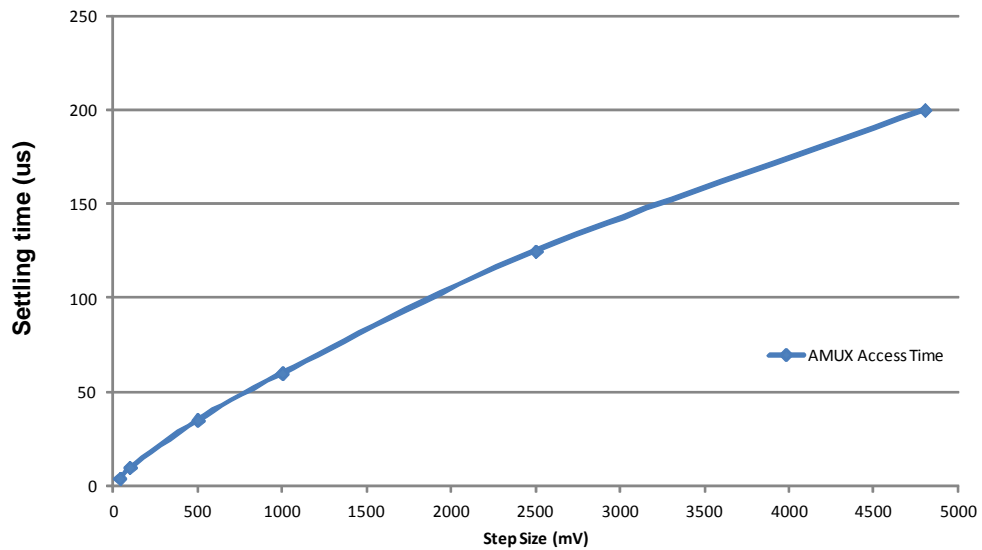

Figure 9. AMUX Access Time Waveform
24. AMUX settling time to be within the 10 mV offset specification. $AMUX_{VALID}$ is dependant of the voltage step applied on the input SGx/SPx pin or the difference between the first and second channel selected as the multiplexed analog output. See Figure 9 for a typical AMUX access time VS voltage step waveform.